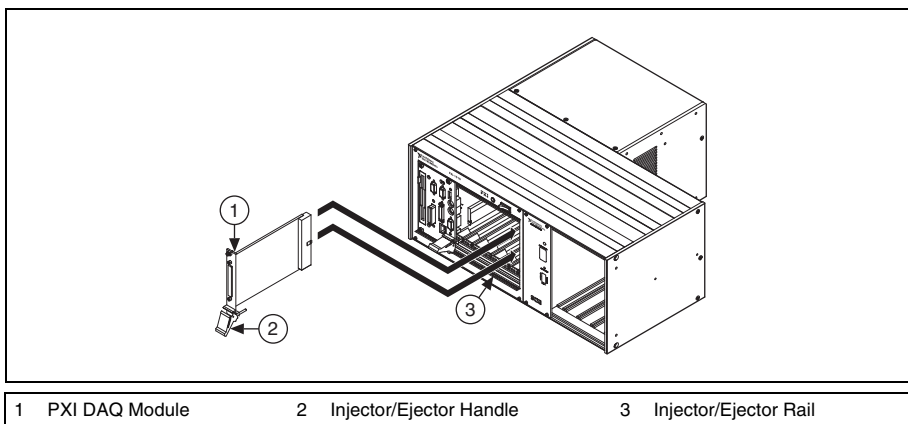

Figure 5. Installing the PXI Module in a New Chassis
2. Place the module edges into the top and bottom PXI module guides, as shown in Figure 5.